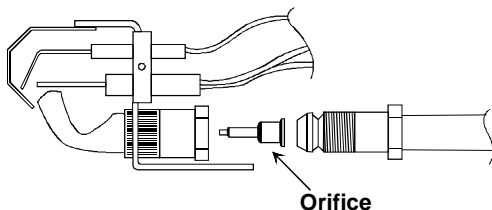

Figure 3
3. **PGB**C and PGD**C models only:** Remove pilot tube from gas valve. Remove the screws holding the pilot assembly to the burner tray and remove the assembly. Remove the pilot orifice as shown in Figure 3. Replace the pilot orifice with the orifice provided with the kit, and reassemble in reverse order.